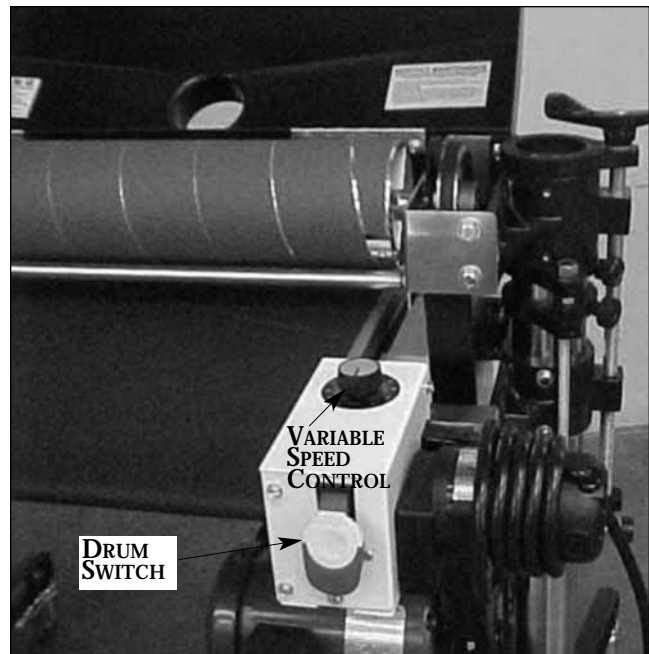

Fig. 6. Conveyor Controller.
3. Install the power feed gear motor (Fig. 6). Rotate the drive roller on the conveyor system so the flat part of the shaft is down. If necessary, plug the gear motor into an appropriate 110v AC outlet to rotate the motor output shaft coupling so the set screws face downward. Unplug the gear motor. Slide the power feed motor assembly onto the drive roller shaft, aligning the shaft coupling and four mounting holes. Start the four 5/16" hex head bolts on the power feed motor mounting bracket, but do not tighten yet.